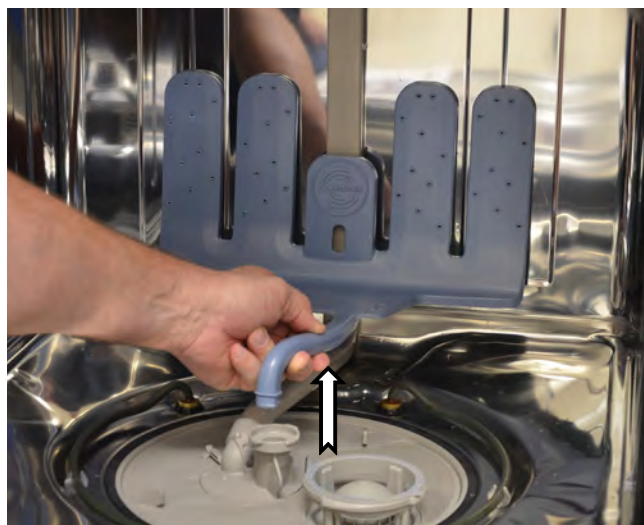

Figure 1
2. Disconnect the manifold tube from the sump by lifting up, see figure 1.